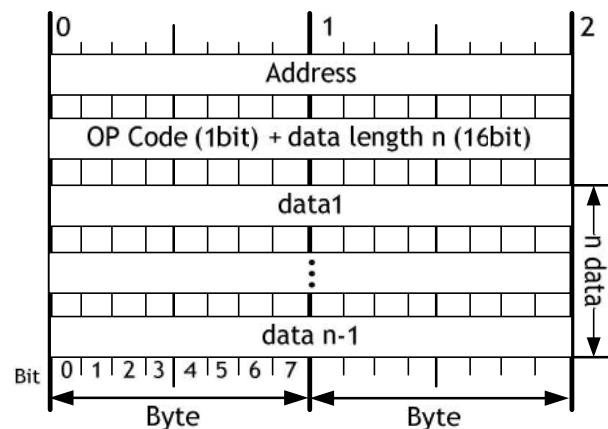
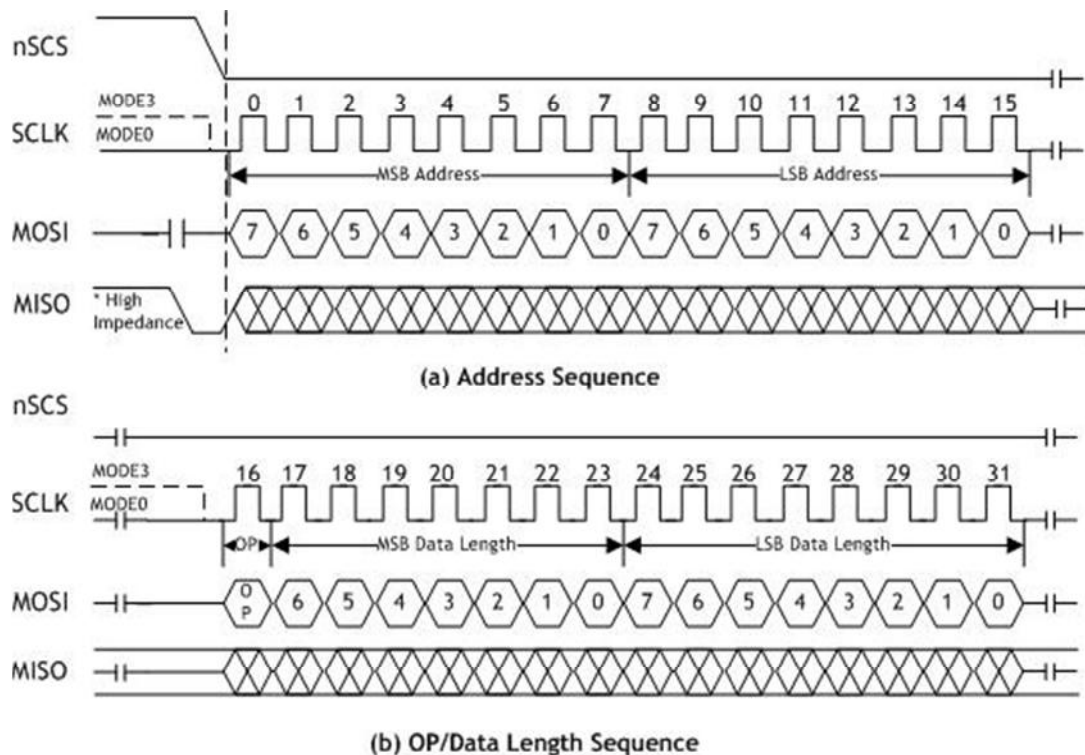

Figure 19 W5200 SPI Frame Format
Figure 20 Address and OP/DATA Length Sequence Diagram
The READ Processing Sequence Diagram is shown in Figure 20. The READ processing is entered by driving nSCS low, followed by the Address, the OP code, the Data Length and the Dummy data byte on MOSI. And then W5200 read the data byte on MISO. The Address, the OP/Data Length Sequence Diagram and the Data are shown in Figure 19. The OP code (OP) is defined type of the READ OP and WIRTE OP. On OP = 0, the read operation is selected. Otherwise, On OP = 1, the write operation is selected.